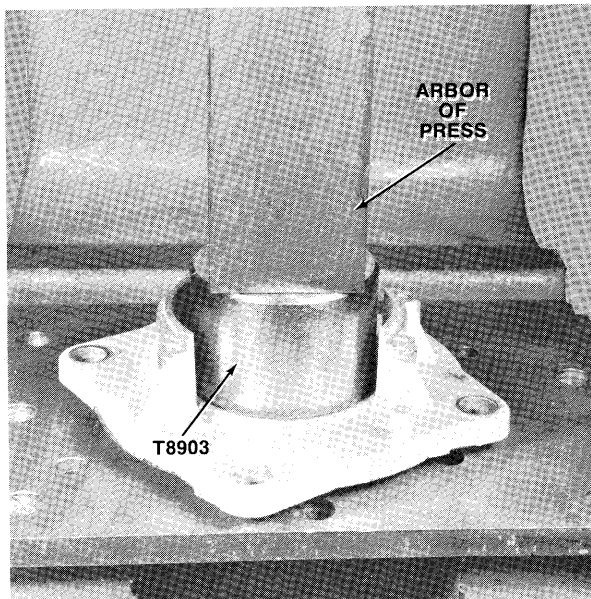

Figure 3—Installing Crankshaft Bearing Seal
- B. Position crankshaft bearing seal on bore of crankshaft bearing cage with major sealing lip with garter spring towards inside of crankcase. Press seal in bore of bearing cage using seal installer (Special Tool T8903) as shown in figure 3.